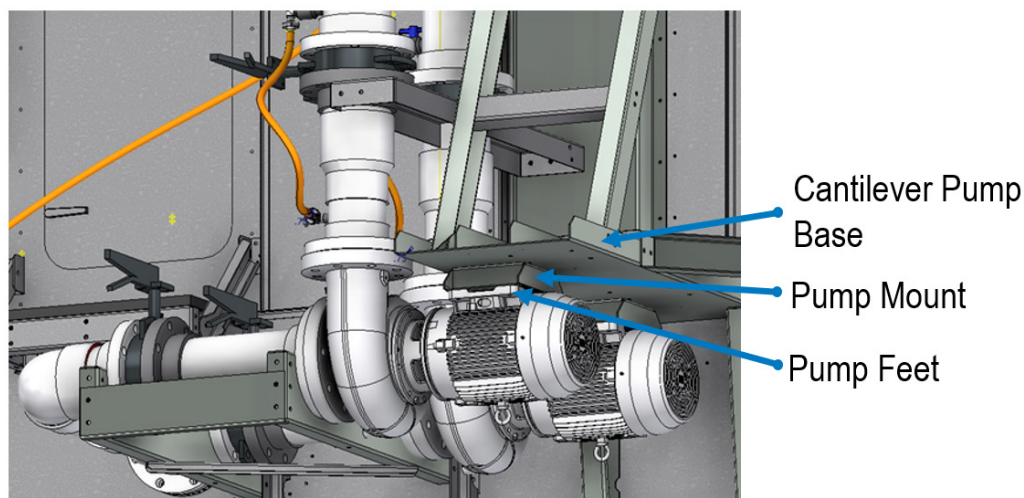

Figure 21. Pump Mounting
5. Loosen and remove 3/8" hardware that fastens the pump mount to the cantilever pump base or remove the 3/8" hardware that fastens the pump feet to the pump mount. See **Figure 21**.
1. Attach 3/8" hardware that fastens the pump mount to the cantilever pump base or attach the 3/8" hardware that fastens the pump feet to the pump mount. See **Figure 21**.